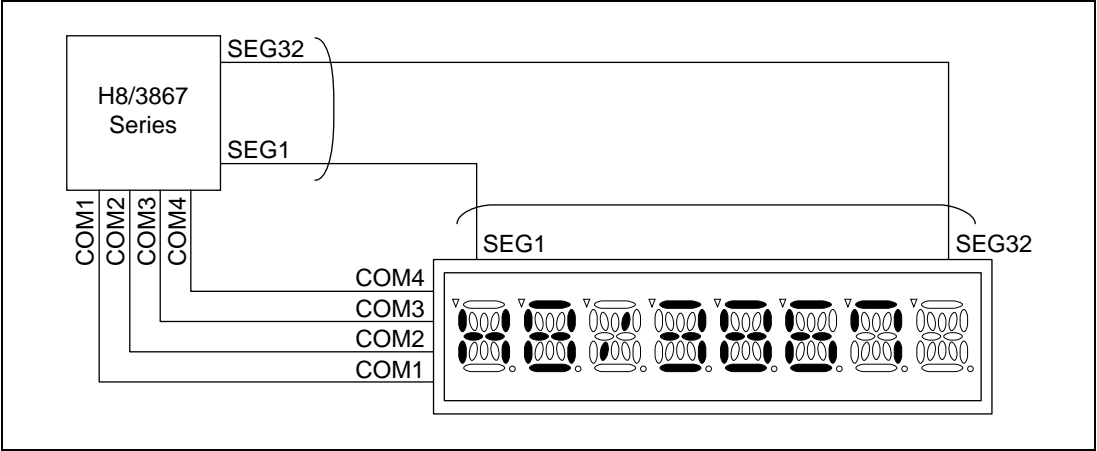

Figure 1 LCD Display Example
4. An example of LCD module connection and an LCD display example for this task example appear in figure 1.